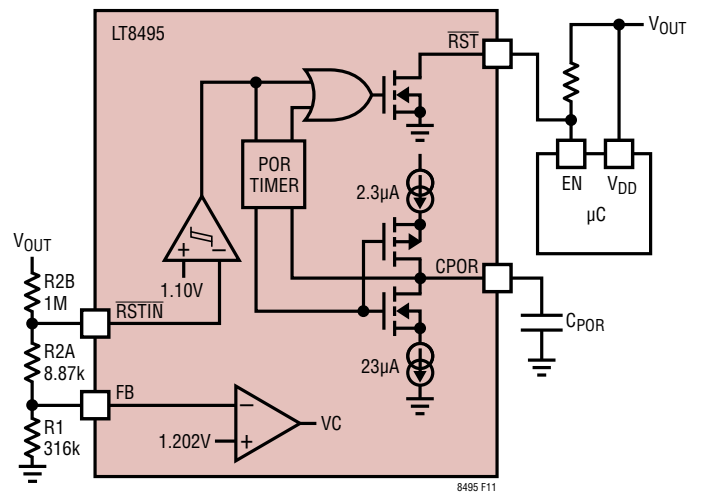

Figure 11.  $\overline{RSTIN}$  Reset Lockout
**Output UVLO:** Connecting the  $\overline{RST}$  and  $\overline{RSTIN}$  pins as shown in Figures 11 and 12 implements an output undervoltage lock out (UVLO) circuit. This circuit resets VOUT powered devices when VOUT is below a desired voltage by asserting the open drain  $\overline{RST}$  pin low. Note that a pull-up resistor is required on the  $\overline{RST}$  pin, but might already be integrated in the  $\mu C$ . There is typically a 23 $\mu s$  delay from the  $\overline{RSTIN}$  pin falling edge until  $\overline{RST}$  is asserted low (see Electrical Characteristics section) for glitch immunity of the  $\overline{RSTIN}$  pin. After  $\overline{RSTIN}$  rises above its threshold,  $\overline{RST}$  continues to be asserted low for a delayed time programmable by the CPOR pin capacitor.
In the example shown in Figure 11,  $V_{OUT}$  is regulated to 5V. For a desired UVLO% of 89.5%, the calculated R1, R2A, and R2B values are 316k, 8.87k, and 1M respectively.